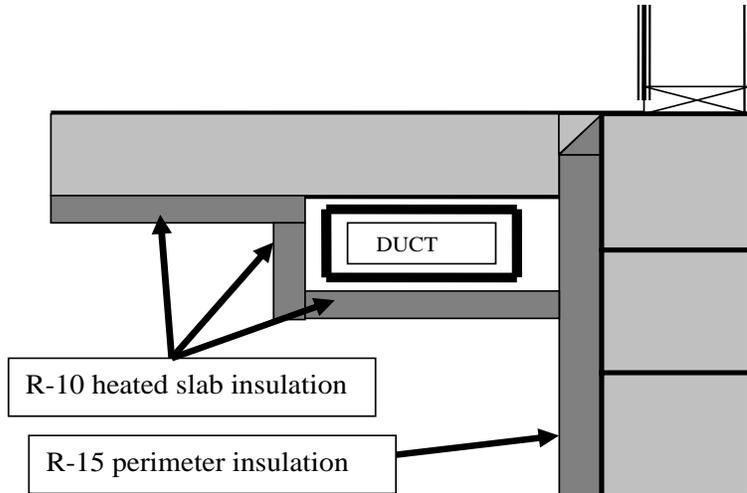

Fig. 2 - Acceptable design for heated slab-on-grade design as duct is within building thermal envelope
- Ductwork located under a slab that is insulated per above Fig. 2 for underground ducts, will be considered within the conditioned space if the foam insulation joints are taped or otherwise sealed
- Ductwork located under a slab may be tested for leakage per the post-construction or rough-in methods required by the code, or alternatively, rigid plastic ductwork may be tested with a static air pressure of at least 5 psi, that holds for at least 15 minutes. Note that SPS 323.08(4) also requires underground duct to be moisture-proof.